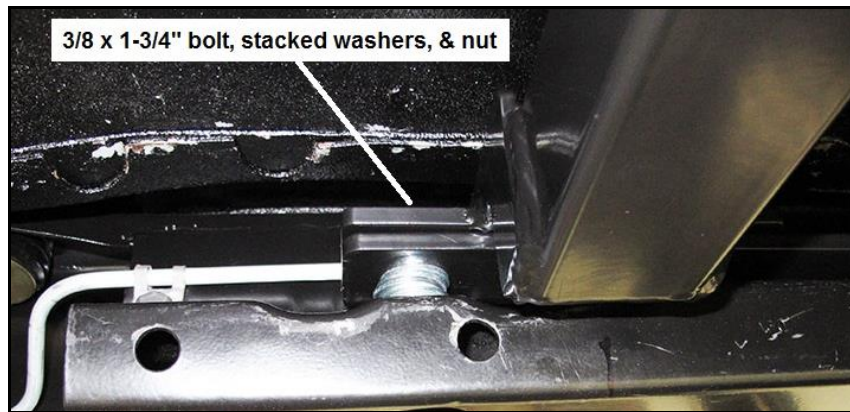

Figure 1 – 1983-87 2004R chassis cars only
4. **1983-87 2004R chassis cars-** Position the frame angle bracket under the left mounting foot of the crossmember and attach them both to the left side frame perch using the supplied 3/8 bolts, washers and flanged nuts as shown in figures 1 and 2. Once all brackets and fasteners have been configured and aligned as directed in **Figure 1**, tighten all the nuts and bolts across the entire crossmember assembly.
- 4A. Attach the crossmember and angle bracket to left frame perch using the supplied 3/8 x 1-3/4" bolt and one flanged nut in the rear holes of both components (**Figure 1**). During installation of the bolt through the components, place the supplied 3/8 washers between the crossmember and frame perch, as needed, to level the angle bracket with the bottom of the vehicle floor. This leveling operation is needed to account for the broad production tolerances and road/collision damage that is common with the frames of these vehicles; some vehicles will need more washers than others to achieve the same result. Notice that the rear-most hole in the vehicle frame perch is not used for attaching the crossmember.